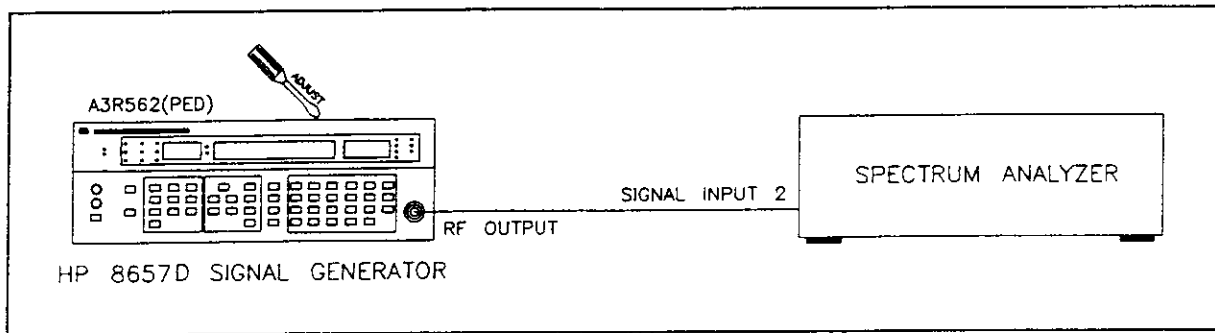

Figure 5-16. Pedestal Adjustment Setup
3. Connect the RF OUTPUT of the HP 8657D to the spectrum analyzer as shown in Figure 5-16.